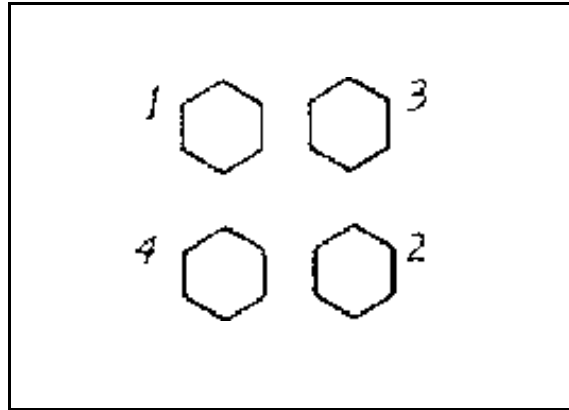

Figure W-2. Side Rod Nut Torquing Sequence
W-9.11.25 Replace the side rod nuts (27). Torque in 20 foot-pound increments to 75 foot-pounds, in the patten shown in Figure W-2 with a 1-inch crowfoot wrench.